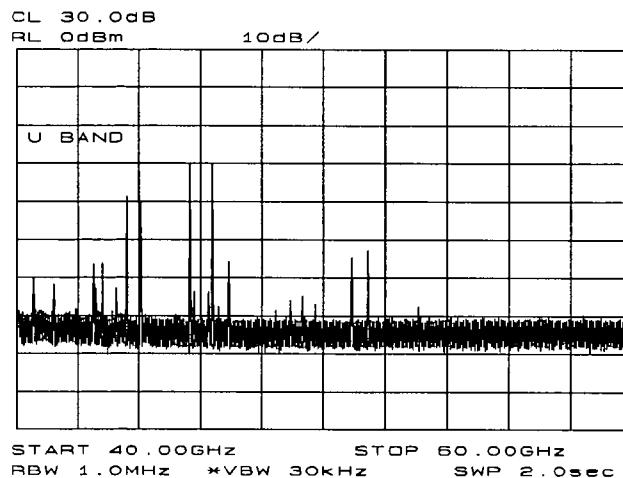

Figure 3-31. Select the band of interest.
1. Specify unselected external mixing by pressing **CONFIG**, then **EXT MXR PRE UNPR** until **UNPR** is selected. To select a frequency above 18 GHz, press **AUX CRTL**, **EXTERNAL MIXER** to set the analyzer to external mixer mode, and then enter the desired frequency directly using the center-frequency function. Note in Table 3-1 that some frequencies overlap and fall into two bands. To be sure that the desired band is selected, refer to Table 3-1 and select the desired frequency band, then use the full band function to enter this band. In the external mixer menu, press **FULL BAND**, then press the step up **▲** key until the letter preceding **BAND** in the active function area corresponds to the desired frequency band. In this example, we'll take a look at U-band, which ranges from 40 GHz to 60 GHz, as depicted in Figure 3-31. The **LOCK HARMONIC** function "locks" the spectrum analyzer in that band, ensuring that the spectrum analyzer sweeps only the chosen band. The **LOCK ON OFF** softkey is automatically set to ON when **FULL BAND** is pressed.